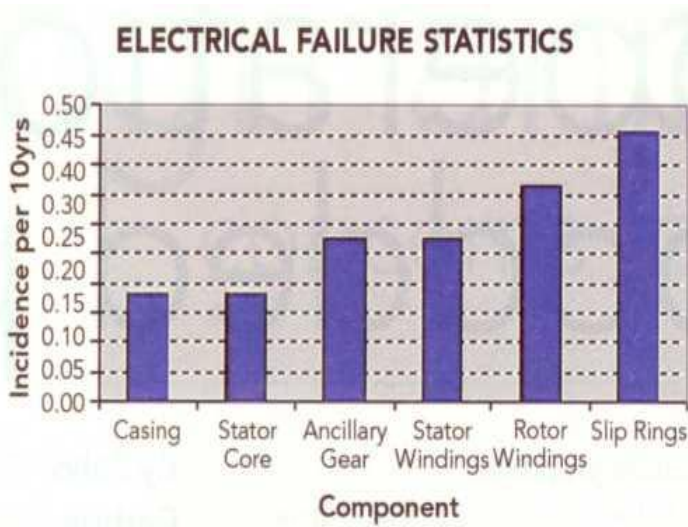
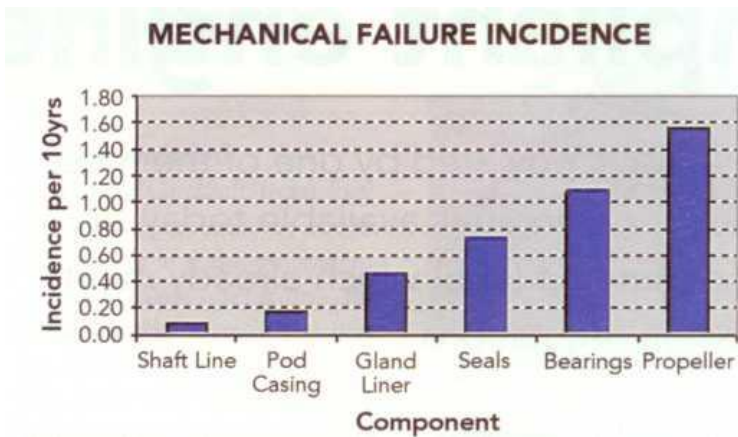

Fig 2.
Fig 3.
The relative incidences of failures within the broad electrical and mechanical classifications are shown in Figs 2 and 3 respectively. In the case of the mechanical failure distribution, Fig 3, although propeller failures appear to be predominant these are mostly blade damages due to contact with underwater objects that have either distorted or broken the blades, normally in their tip or outer regions.
1. Fig. 2 and 3 show electrical and mechanical failures respectively.
2. Compare and describe electrical and mechanical failures using Fig.2 and Fig.3.